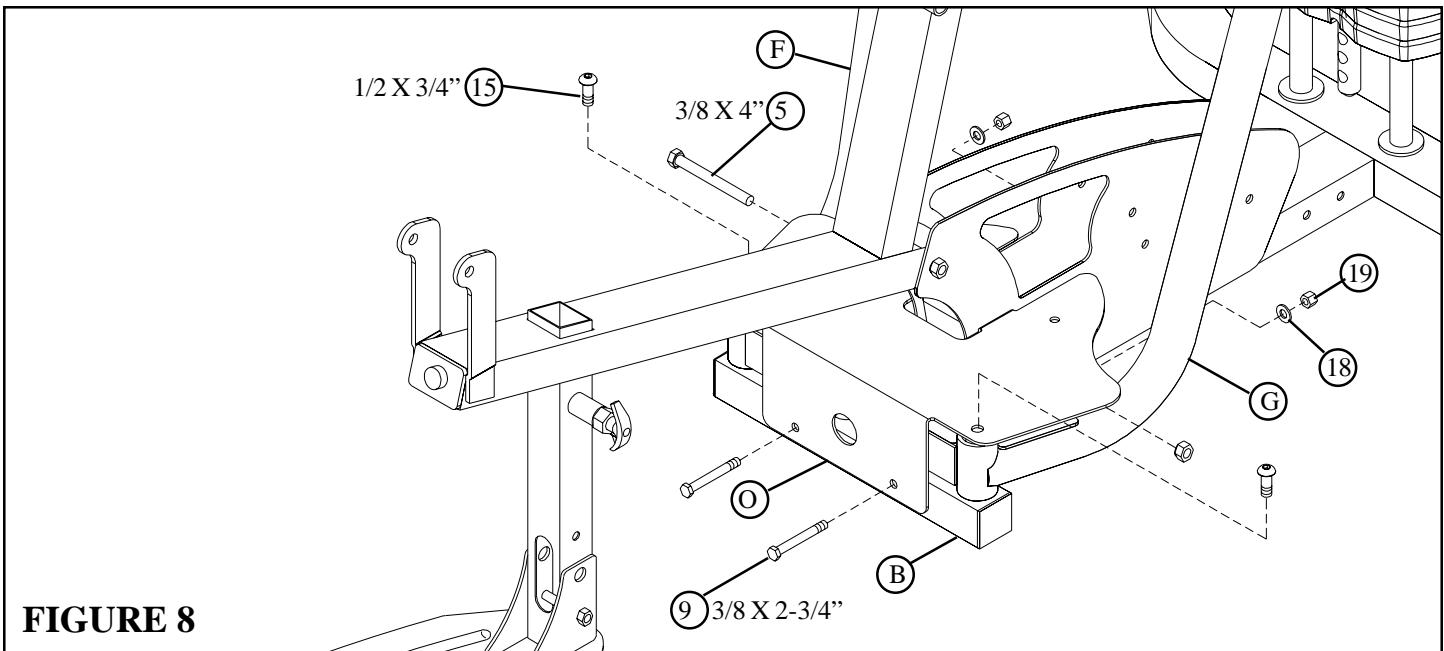

FIGURE 8
- SECURELY assemble the PEC PLATE (O) to the BASE (B) using two 3/8 X 2-3/4" BOLTS (9), one 3/8 X 4" BOLT (5), two 3/8" WASHERS (18) and three 3/8" LOCK NUTS (19) as shown in FIGURE 8.
- SECURELY assemble the LEFT (F) and RIGHT (G) PEC FLY ARMS to BASE (B) using two 1/2 X 3/4" BUTTON HEAD BOLTS (15) as shown in FIGURE 8. (Note: Tighten this connection enough to remove excess play yet allow the PEC FLY ARMS to rotate freely.)